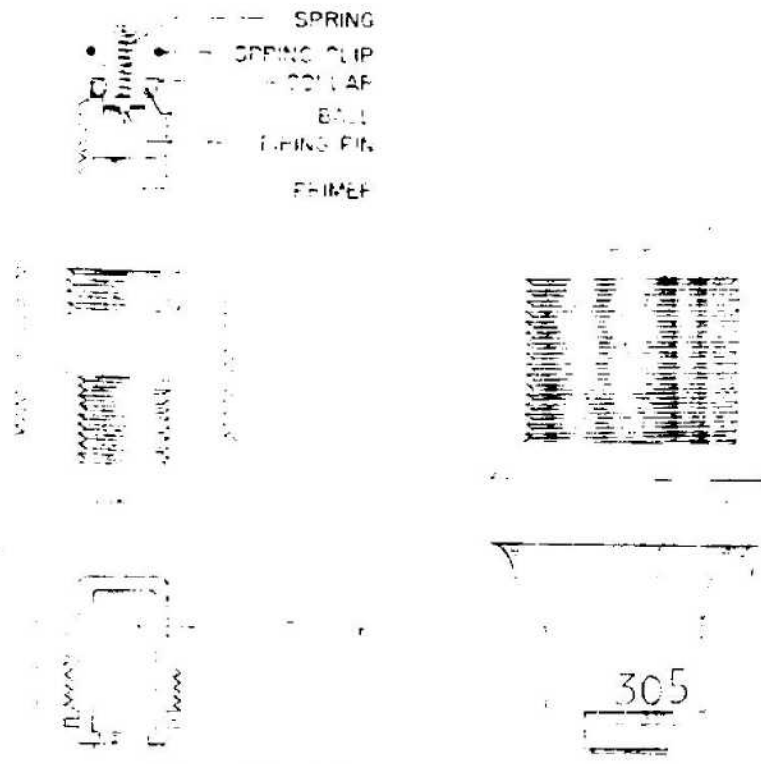

Figure 609—Bd. Z. for 8.8-cm Pzgr.
**EMPLOYMENT:** Small cavity fuze for 8.8-cm A. P. projectile. (See fig. 609.)